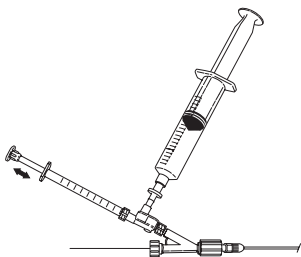

Fig.8
10. To infuse solution, draw desired dose into 1 mL syringe and inject. Reload 1 mL syringe and repeat infusion technique as necessary. (Fig. 8)